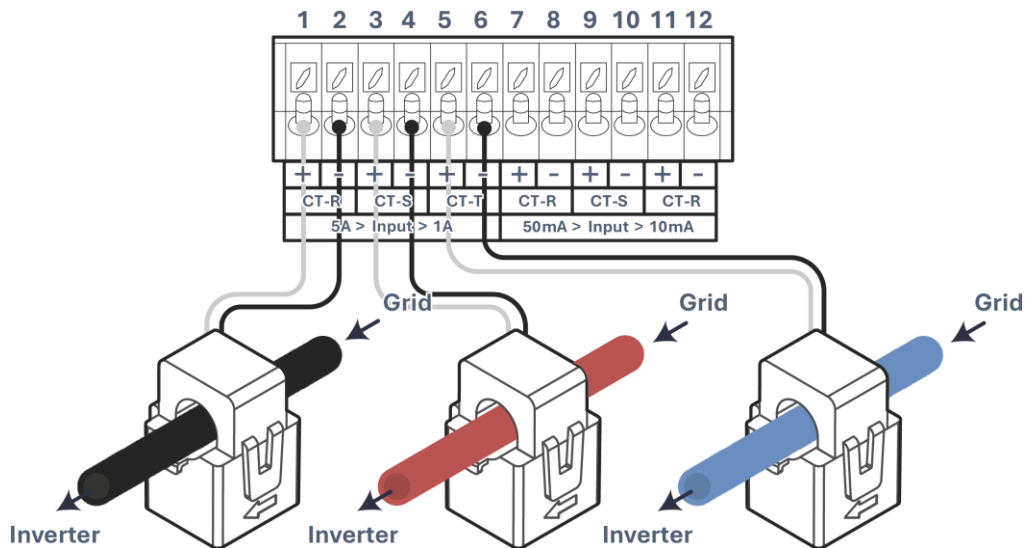

Figure 14: CT to Inverter Wiring
2. Figure 14: CT to Inverter Wiring below.
To program the inverter with the correct CT ratio, begin by going to the ⚙️ → **Basic Setup** → **Advanced** screen of the inverter, as shown in Fig. 14. The correct CT ratio can be calculated by dividing the primary side current by the secondary side output current, the resulting number should be multiplied by 100 before entering it into the CT Ratio setting on the inverter.